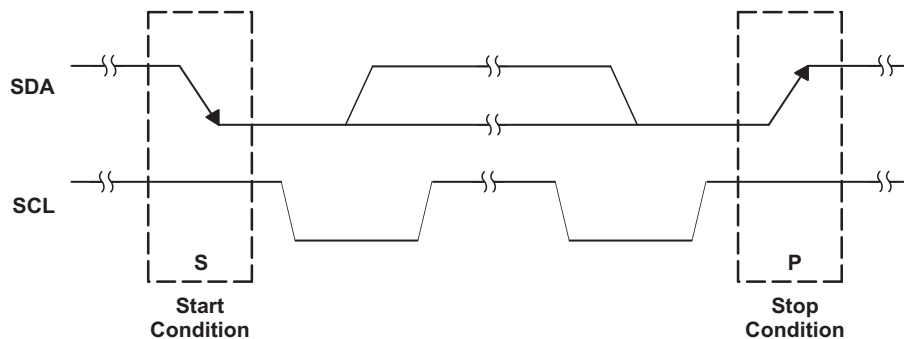

Figure 17. I²C Start and Stop Conditions
The basic I²C start and stop access cycles are shown in Figure 17. The basic access cycle consists of the following:
- The master initiates data transfer by generating a start condition. The start condition is when a high-to-low transition occurs on the SDA line while SCL is high, as shown in Figure 17. All I²C-compatible devices should recognize a start condition.
- To signal the end of the data transfer, the master generates a stop condition by pulling the SDA line from low to high while the SCL line is high (see Figure 17). This releases the bus and stops the communication link with the addressed slave. All I²C compatible devices must recognize the stop condition. Upon the receipt of a stop condition, all devices know that the bus is released, and they wait for a start condition followed by a matching address.